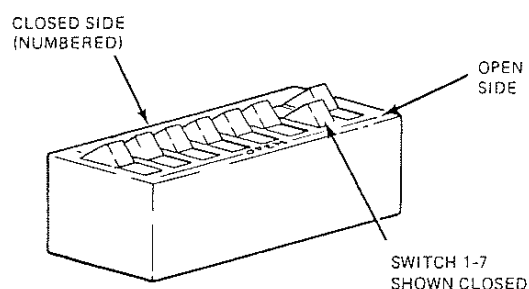

Figure A-2.
5. Using a small screwdriver or similar tool, close switch 1-7. Refer to Figure A-2.
Figure A-2 is not intended to show all required switch positions. It is presented only to show DIP switch configuration and to identify the "open" and "closed" positions.